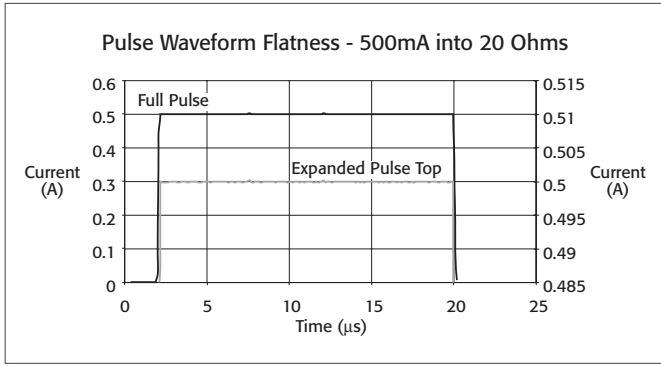

FIGURE 1
- Figures 1 and 2** are typical pulse outputs into resistive loads.